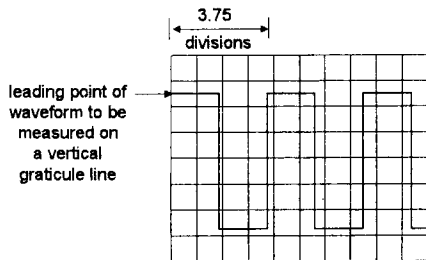

Fig. 7. Square wave period measurement
3. Move the H. POSITION control until the front part of the waveform section to be measured is on a vertical graticule line. (see Fig. 7)
6. Calculate the period by multiplying the number of horizontal divisions of the measured period times the setting of the TIME/DIV Selector. For example, the period of the pulse in Fig. 7 is 3.75 divisions. If the TIME/DIV Selector is in the 1ms/div then the period is 3.75 divisions  $\times$  1ms/div = 3.75ms.